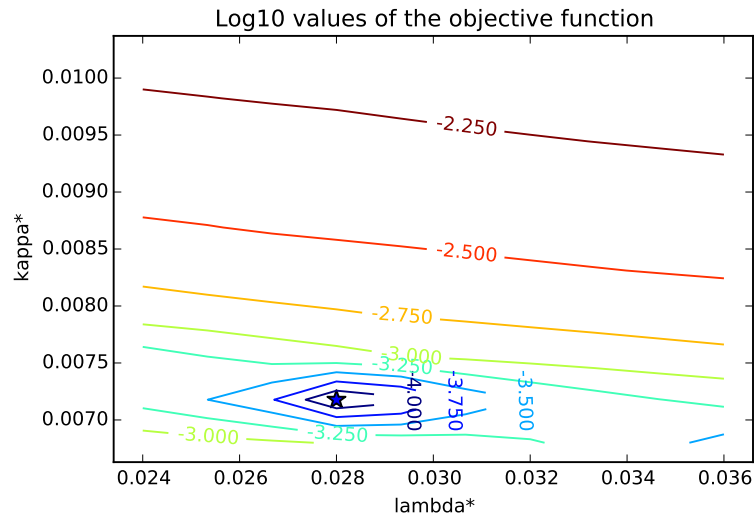

Figure 4: Log values of the objective function, $\log_{10} \epsilon$, with a star marker (★) denoting the location of the inverse problem solution estimate.
- After evaluating the Python code, an estimate of the solution of the inverse problem $\{\hat{\lambda}^*, \hat{\kappa}^*\} = \{0.028, 7.178 \cdot 10^{-3}\}$ is obtained with the value of the objective function of $\epsilon(\hat{\lambda}^*, \hat{\kappa}^*) = 5.687 \cdot 10^{-5}$. Log values of the objective function, $\log_{10} \epsilon$, are presented in Figure 4, with a star marker (★) denoting the location of the inverse problem solution estimate.